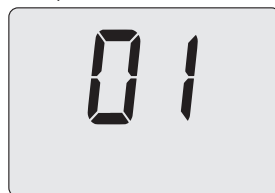

Figure 7.15
- Press the 12 button (Figure 7.2) to confirm the value entered and activate the function (Figure 7.15).